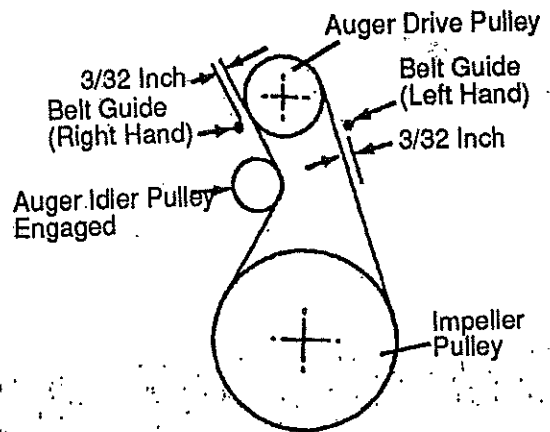

FIG. 8-SERV & ADJ
- Measure the distance between the belt guides and the belt (**See FIG. 8-SERV & ADJ**). The distance should be  $3/32$ " for each guide.